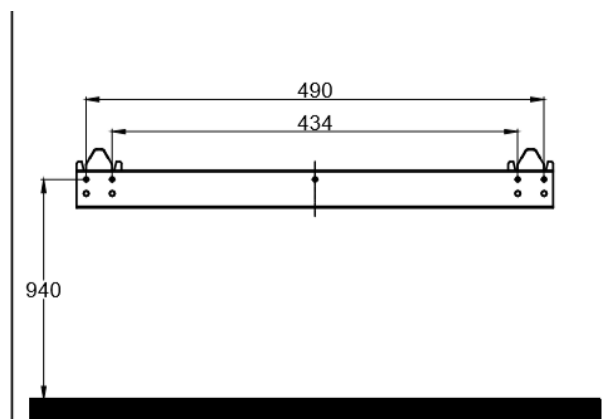
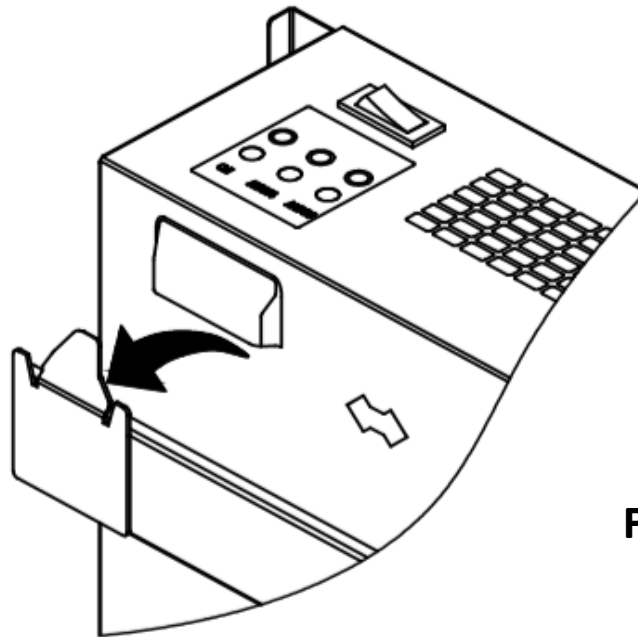

Fig.2
Fig.4
2. With reference to Fig 2 above, mark the five screw fixing positions on the wall for the **Wall Retaining Bracket (2)** as shown right. Drill the holes with a 6mm masonry drill bit and insert the five **Wall Plugs (5)** provided into the holes. Use a spirit level (not supplied) to ensure that the wall bracket is level.
3. Screw the **Wall Retaining Bracket (2)** to the wall using the **Fixing Screws (6)** provided. Ensure the **Fixing Screws (6)** are fully tightened.
4. Fit the **Lower Retaining Bracket (4)** to the two holes in the base of the fire using the two Small Screws provided and tighten as shown right:
5. Carefully lift the fire up ensuring that the top rear edge of the fire hooks securely onto the **Wall Retaining Bracket (2)** - see Fig.4 below:
7. Using a pencil, mark the wall for the 2 wall fixing screw positions for the **Lower Retaining Bracket (4)** as shown left.
8. Carefully remove the fire from the wall and drill the 2 screw positions for the **Lower Retaining Bracket (4)** with a 6mm masonry drill bit (not supplied) and insert the 2 x **Wall Plugs (5)** provided.
9. Carefully lift the fire up back onto the wall ensuring that the top rear edge hooks securely onto the **Wall Retaining Bracket (2)** – See Fig. 4 above. Gently lower the fire against the wall. Again, it is recommended that two people carry out this stage.
10. Secure the **Lower Retaining Bracket (4)** to the wall using the **Fixing Screws (6)** provided. Ensure the **Fixing Screws (6)** are fully tightened.
11. Unpack the **Pebbles** (8) from the bag and place them along the light unit at the bottom of the recess in the desired position as shown right: